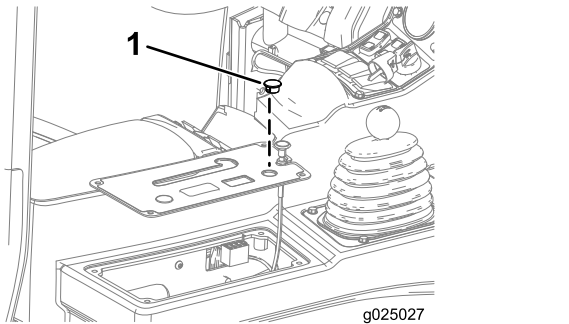

Figure 15
- Remove the forward, round plug from the control-panel cover (Figure 15).